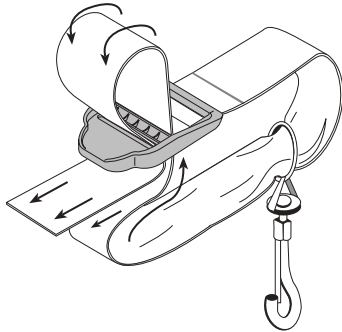

FIGURE 4
2. Pull the strap over the cross bar and down through the slot in the buckle, Figure 4.